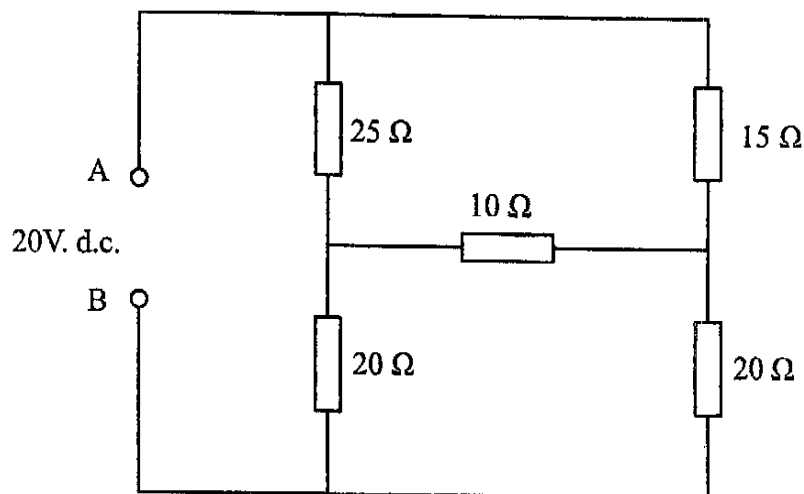

Fig Q2
- (a) the value of the constant 'k'; (6)
- (b) the resistance of the non-linear resistor when the current is 9mA; (4)
- (c) the value to which 'R' must be adjusted to make the circuit current 4mA. (6)
2. For the network shown in Fig Q2 determine EACH of the following:
- (a) the resistance between the terminals A and B; (8)
- (b) the current in the  $10\Omega$  resistor; (4)
- (c) the p.d. across the  $15\Omega$  resistor. (4)